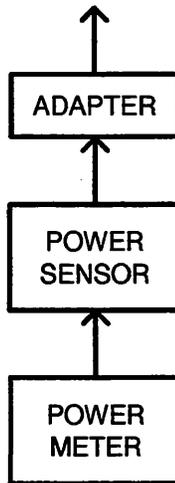

Figure 7-Receiver Down-Converter IF Output Level Check (4300 Series)
- Refer to Figure 7.
4. Condition the power meter to measure the expected power level (normally -15 to -25 dBm), and connect it to the RCVR CONVR IF OUT jack (Figure 7). Record this level.